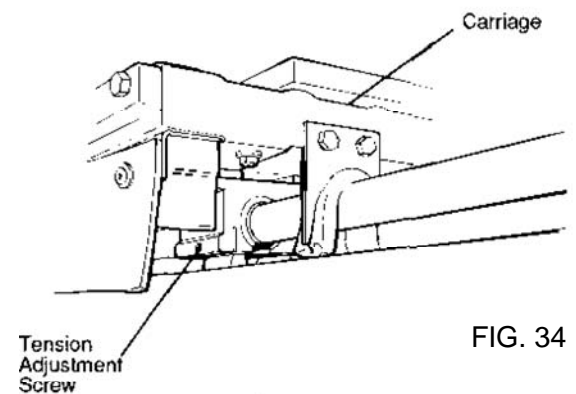
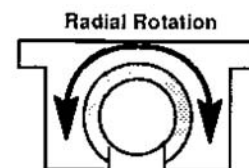

FIG. 34
FIG. 35
6. Adjust the tension screw (FIG. 34) on the side of each bearing block so that when you radially rotate the pillow block around the carriage (See FIG. 35) rail there is no free play between the bearing and rail. You should feel a strong drag.
7. Attach the three linear bearing pillow blocks loosely to the bottom of the carriage, with their tension adjustment screws (FIG. 34) facing outward.